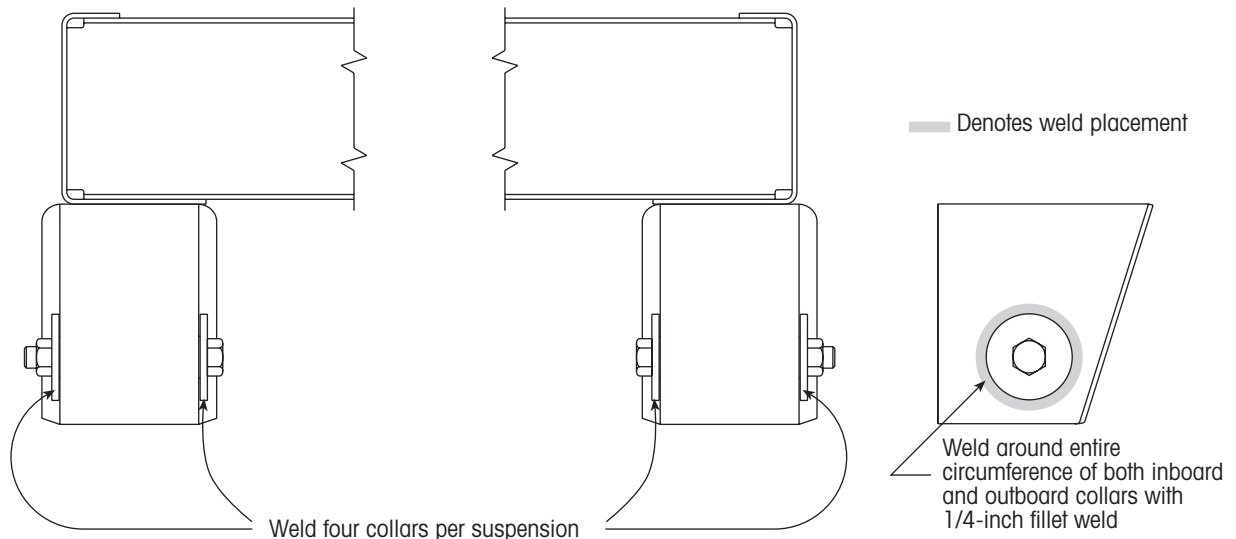

Figure 27: Welding locations on welded collars
7. **Weld** around the inboard and outboard collars on each end of the axle with a 1/4-inch fillet weld (Figure 27).